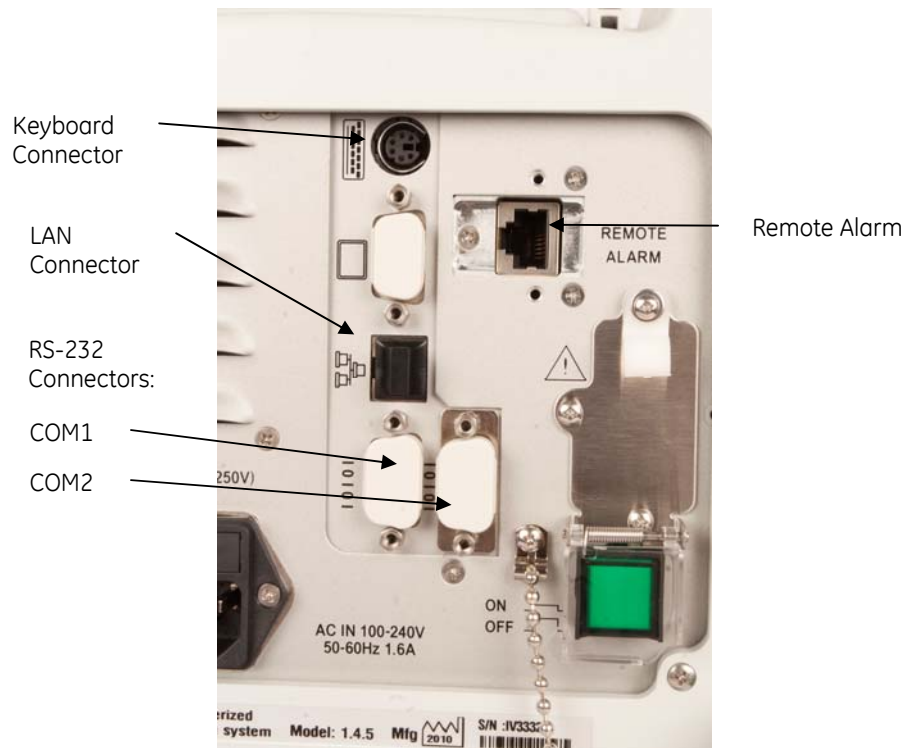

Figure 20: iVent™201 Rear Panel
- The RS-232 connector to the RS-232 port (COM1 or COM2), located on the right side of the device. (Figure 20).
The iVent™201 can be connected to a remote alarm system via the Remote Alarm Connection port on the back panel shown in Figure 20.
**NOTE**            The iVent™201 is supplied with the Remote Alarm port covered (See Figure 20). Unscrew the cover to connect the Remote Alarm cable.